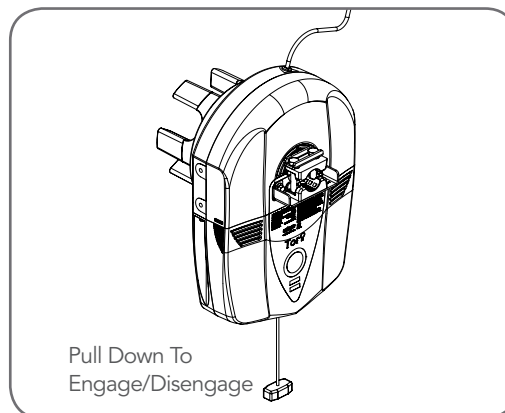

Fig 11.1
- Move the door to half way open. If necessary, disengage the opener by pulling the cord down (Fig.11.1). Re-engage the opener by pulling the cord down again.